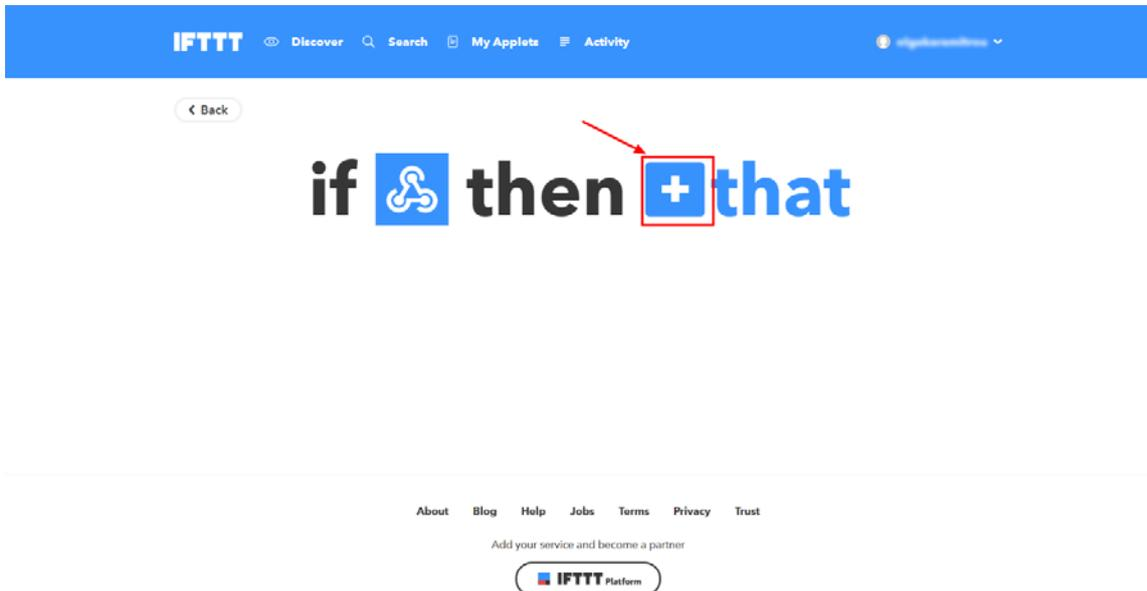

Figure 79: Make an IFTTT Applet, Create That
- 7. Follow the instruction on Figure 79.